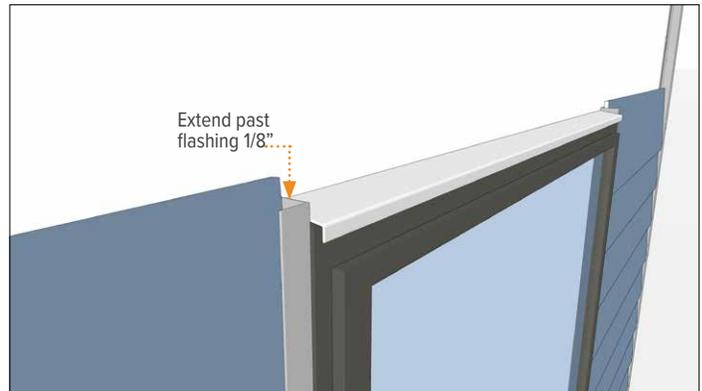

Figure 24.3
3. Extend EZ.40 J trim up past the edge of the window flashing 1/8" (Figure 24.3).